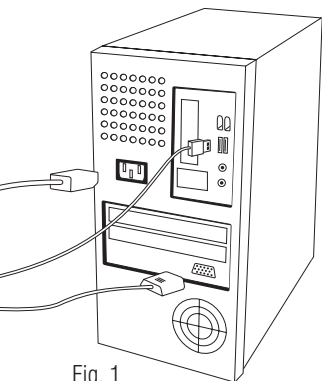

Fig. 1
- ① Shut down your computer and disconnect all cables plugged into the computer. [Fig. 1]
- ② Remove the computer's case (refer to your computer's documentation).
- ③ Once the cover is removed, touch a non-painted metal surface (i.e. the power supply) to ground yourself. **This is an important step!** You can damage the components inside the computer if you do not ground yourself.
- ④ If you are replacing an existing drive: